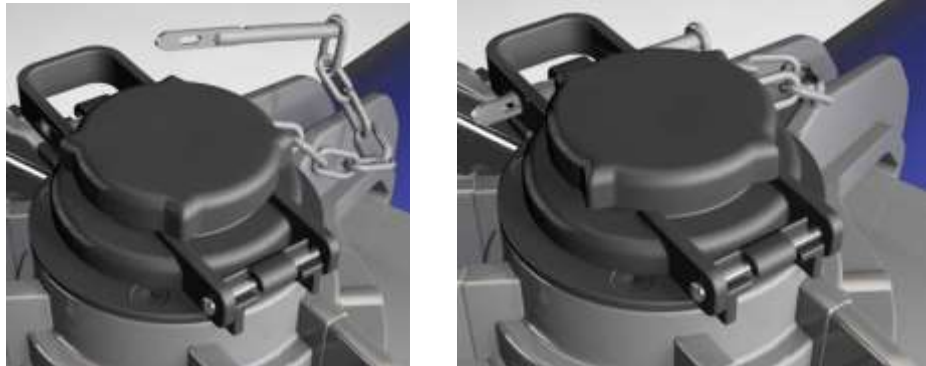

Figure 4 - Cap Assembly and Locking Pin
- ii. The cover assembly must be in the down, locked and sealed position for the ram cap assembly to properly close and for its locking pin to pass freely through the features that lock it into place. If the locking pin cannot pass through freely, it is an indication that the cover assembly is not down, locked, and sealed. See following illustrations in Figure 4 for details.